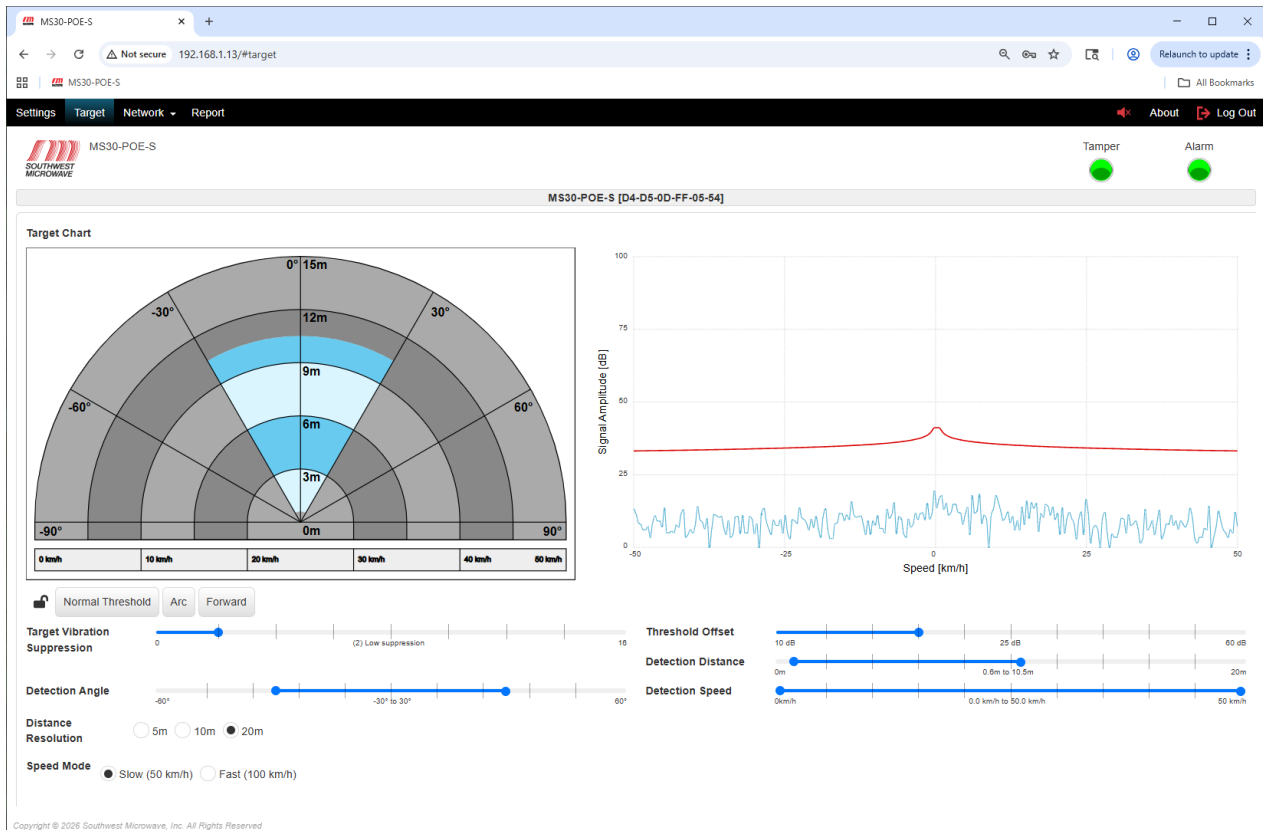
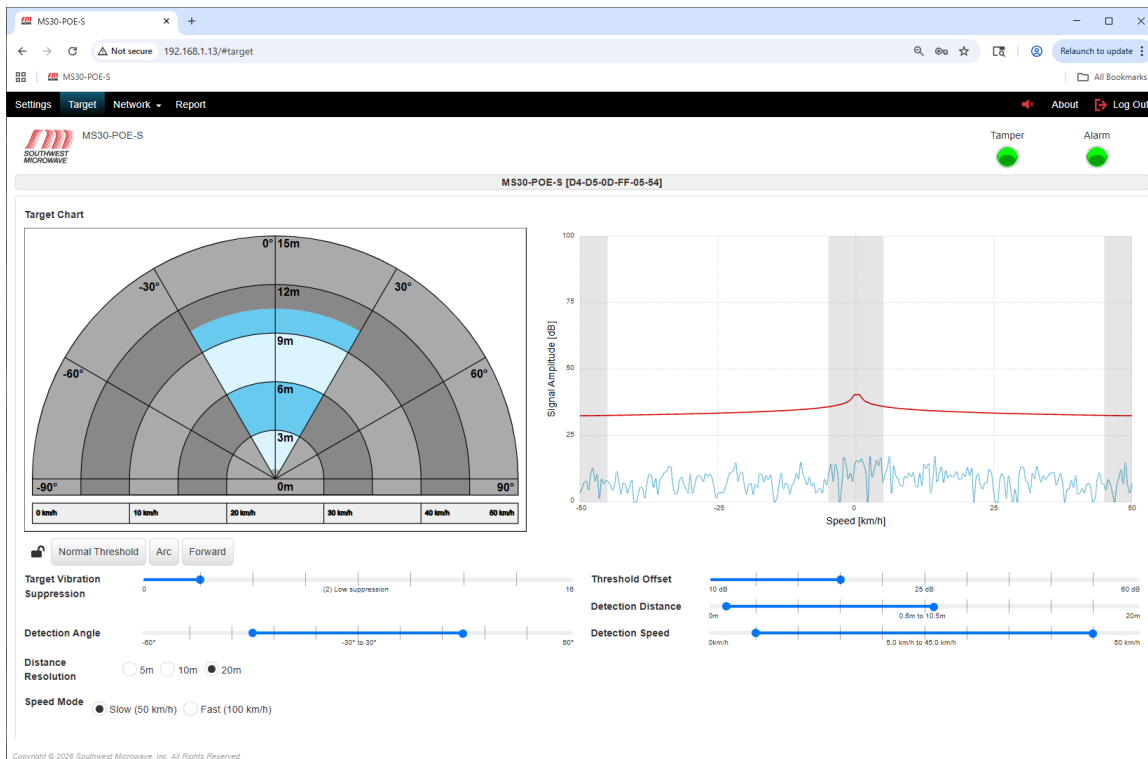
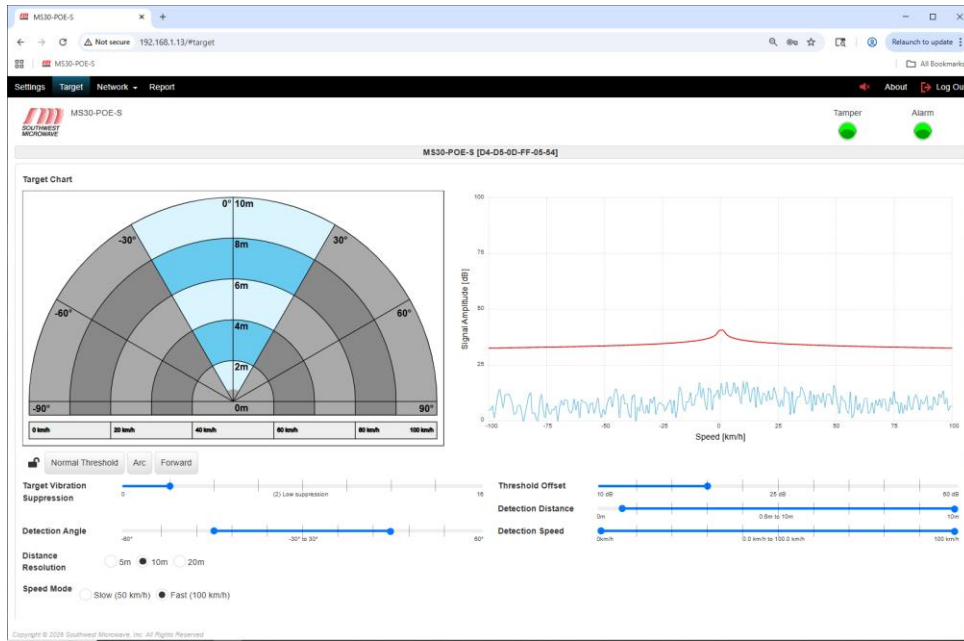

Figure 10.2 – Target Screen Adjustments
Figure 10.3 – Detection Speed Change
Figure 10.4 – Distance Resolution Change
Selecting the “Lock”: under the “Target Chart” will open the slide bars to configure the parameters of the system as shown in Figure 10.2.
The Target Vibration Suppression setting is used to suppress small moving or vibrating targets like weeds, tree branches, and fences from causing nuisance alarms. The default setting is 2 (low suppression). It can be adjusted from 0 (no suppression) to 18 (high suppression) as shown in Figure 10.2. *Note: at high suppression settings target detection will be affected.*
The Threshold Offset setting is used to change the sensitivity of the unit. The default setting is 30dB. It can be adjusted from 10dB (most sensitive) to 60dB (least sensitive). As shown in Figure 10.2. This setting should be set at the highest dB value to meet detection requirements of the site to minimize nuisance alarms. As the value is changed, the red line on the Signal Amplitude chart will move up or down above the system noise floor. *Note: setting the value at 10dB will make the unit very sensitive and become prone to nuisance alarms. 15dB is usually the lowest setting.*
The Detection Angle setting is used to change the angle of the detection area from 30° to 120° as shown in Figure 10.2. Default is 60°. When changed the blue area of the Target Chart will shift with the new setting. Set the angle to meet site requirements.
The Detection Distance setting is used to change the detection distance range as shown in Figure 10.2. Default is 0.6m to 10.5m (1.97 ft. to 34.4 ft.). The 0.6m (1.97 ft.) setting acts like a null at the radome to prevent nuisance alarms from in close targets like rain. The 10.5m (34.4 ft.) setting is the ideal setting for the range the sensor was designed to detect. Generally, this setting should not be changed and should never be set to greater than 12m (39.4 ft.). The total adjustment range of the slider is 0m to 20m (0 ft. to 65.6 ft.). If the distance is changed, the blue area of the Target Chart will shift with the new setting. Set the distance to meet site requirements.
The Detection Speed setting is used to change the speed of target detection as shown in Figure 10.2. Default is 0.km/h to 50km/h (0mp/h. to 31mp/h.). The speed can be changed to meet site requirements. If the detection speed is changed the Signal Amplitude chart will display gray boxes on the areas that have been changed as shown in Figure 10.3. The Speed Mode has two (2) settings that work in conjunction with the Detection Speed. These are Slow (50km/h) and Fast (100km/h). The default is Slow. When set to Fast the detection speed will change to 0.km/h to 100km/h (0mp/h. to 62.1mp/h.). Set the speed to meet site requirements.
The Distance Resolution setting is used to change the Target Chart distances view as shown in Figure 10.2. There are three (3) resolutions to choose from, 5m, 10m, 20m. When selected the blue area of the Target Chart will change as shown in Figure 10.4. These settings are just for visual viewing of the range and targets on the screen and have nothing to do with detection parameters. If set to 20m remember to adjust the setting to 12m or less.